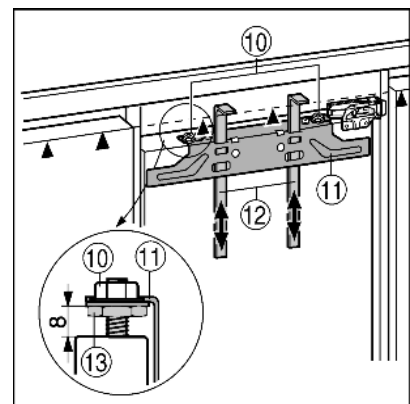

Fig. 16
- ▶ Push up assembly aids Fig. 16 (12) to unit door height. Lower edge ▲ of the assembly aid = top edge of the unit door to be fitted.
- ▶ Unscrew fastening crosspiece Fig. 16 (11) by undoing the locknuts Fig. 16 (10).